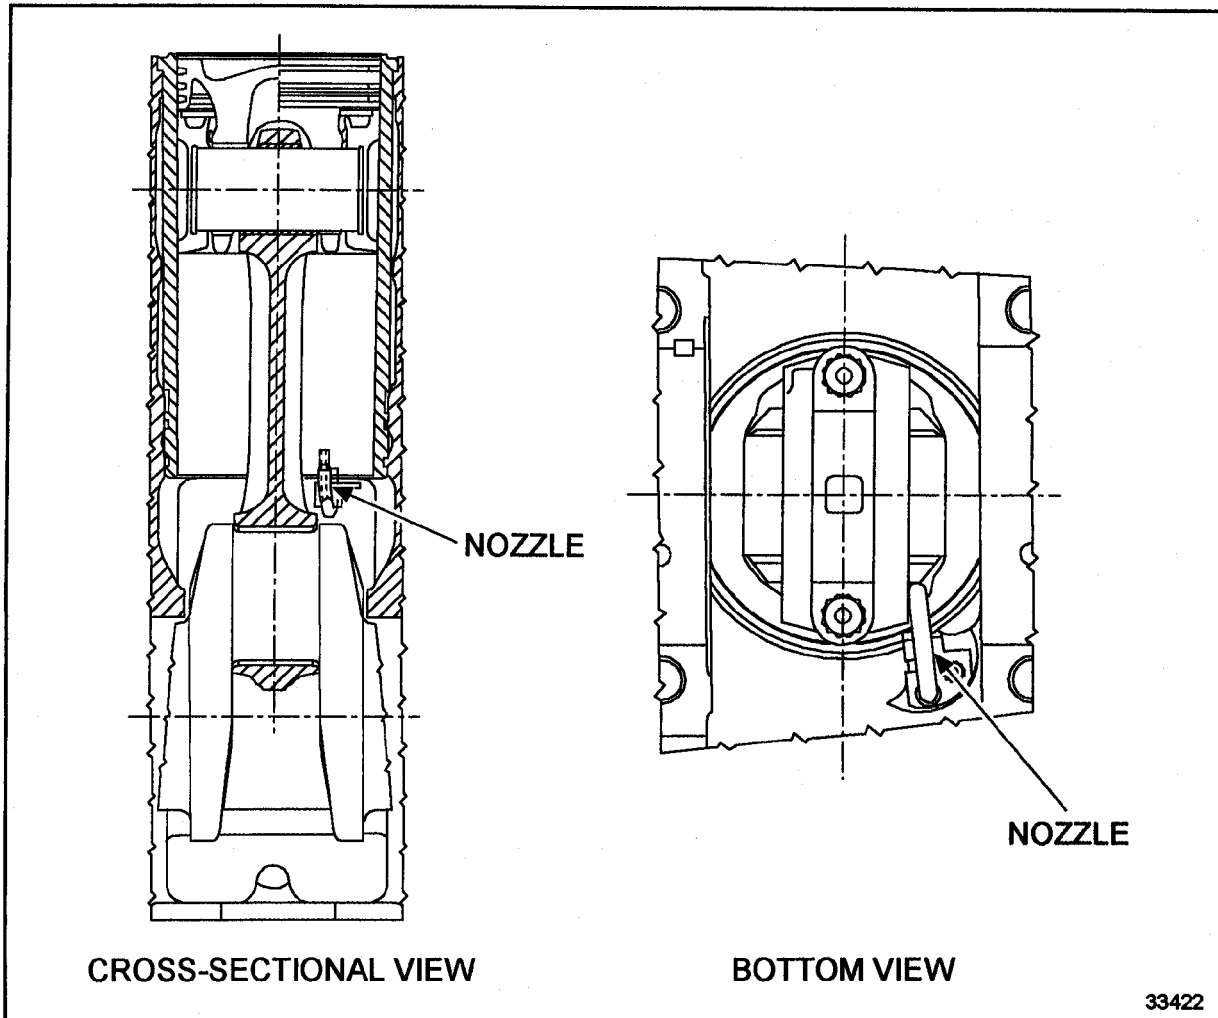

Figure 1-18 Oil Spray Nozzle Location
5. On current non-premium engines with cast iron pistons, install the bolt-on plate over the oil gallery orifice at the base of each cylinder bore. On premium engines with closed-end rods and forged steel pistons, install oil spray nozzles into these openings. See Figure 1-18 for location of nozzle. Torque plate nozzle retaining bolts to 30–38 N·m (22–28 lb·ft).